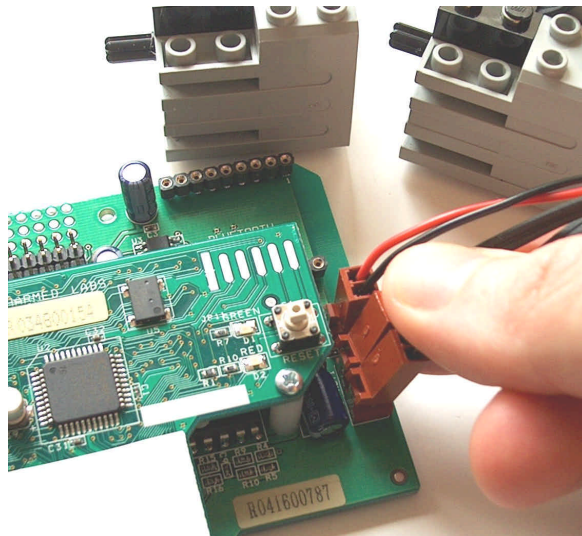

Figure 8: Insert motor connectors into “MOT0” and “MOT1” connectors on Robot Board
11. With the two modified wires, connect two LEGO motors to the “MOT0” and “MOT1” connectors on the Robot Board as shown in **Figure 8**.